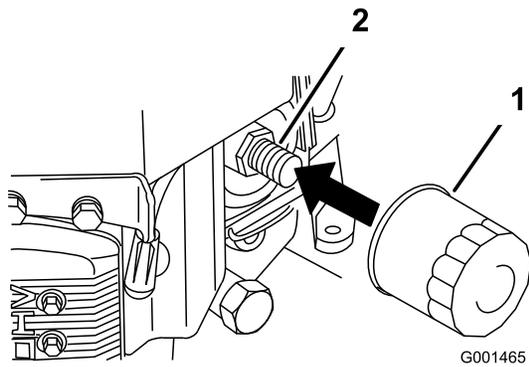

Figure 31
2. Remove the old filter (Figure 31).
3. Apply a thin coat of new oil to the rubber gasket on the replacement filter (Figure 31).
4. Install the replacement oil filter to the filter adapter, turn the oil filter clockwise until the rubber gasket contacts the filter adapter, then tighten the filter an additional 3/4 turn (Figure 31).